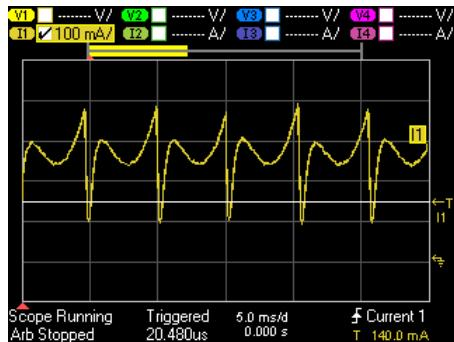
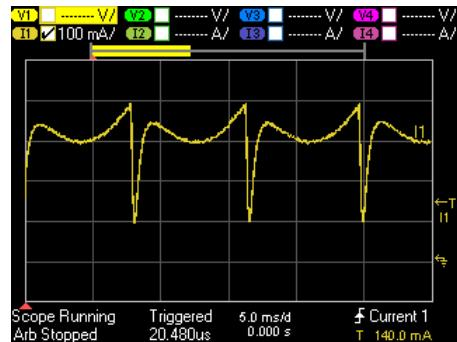

Figure 7 – DC Fan Current Waveform
Figure 8 – DC Fan Current Waveform
2. Use your finger to apply resistance to the fan as it spins to see the changes in the waveform. Compare Figure 8 to Figure 7.